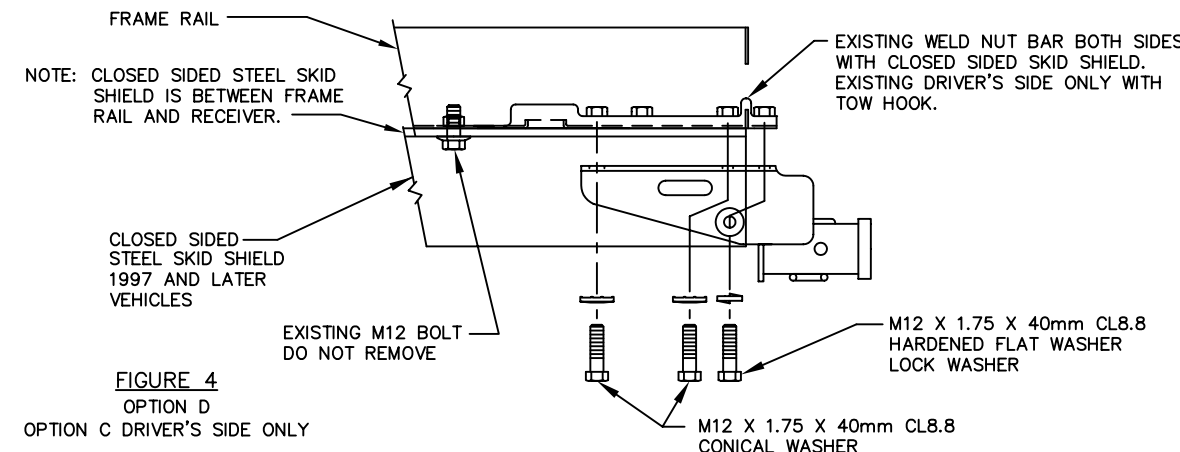

FIGURE 4
OPTION B - SEE FIGURE 4
- INSTALL FOUR (4) M12 BOLTS WITH LOCK WASHERS PROVIDED (THE REARMOST ATTACHMENT HAS A HARDENED FLAT WASHER BETWEEN RECEIVER FLANGE AND LOCK WASHER) EACH SIDE AS SHOWN IN FIGURE 4.